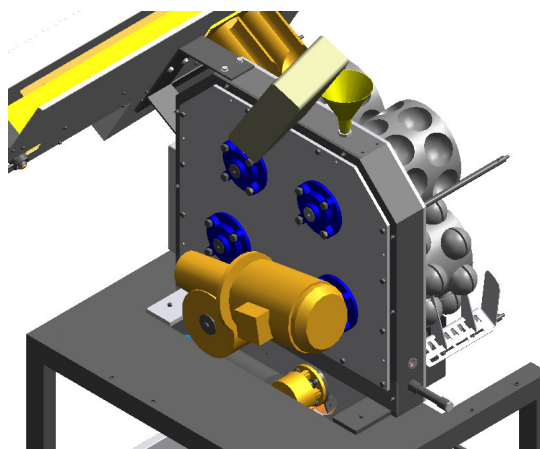

Figure 8
**B) REAR AXLE SUPPORTS ( Fig. 8 ) :** Lubrication of the four rear UCFC 208 ball bearing units should be carried out every six months using lithium grease with mineral oil as its base. Make sure that the sealing caps for the ball bearings are not dried out or that the cast boxes are not broken. Once the ball bearings have been lubricated, connect the machine for 5 minutes to test that their temperature is not too high.